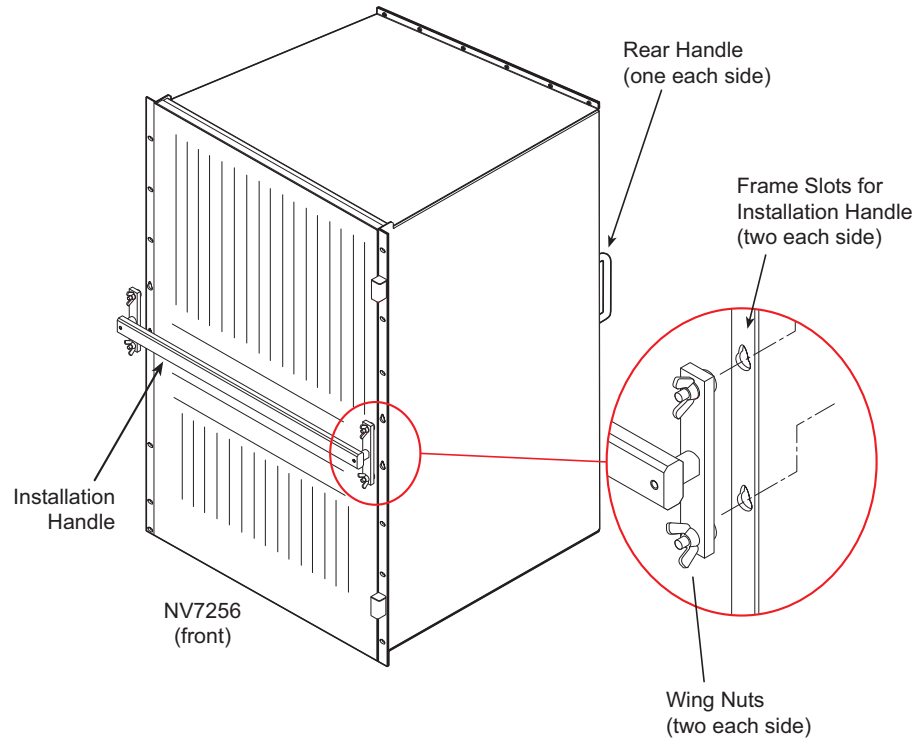

Figure 2-1. Frame Installation Handles, Front and Rear
- 8 Install the temporary installation handle on the front of the frame, as shown in Figure 2-1. The handle fits into the keyhole-shaped slots. These handles are used to lift the frame into position.